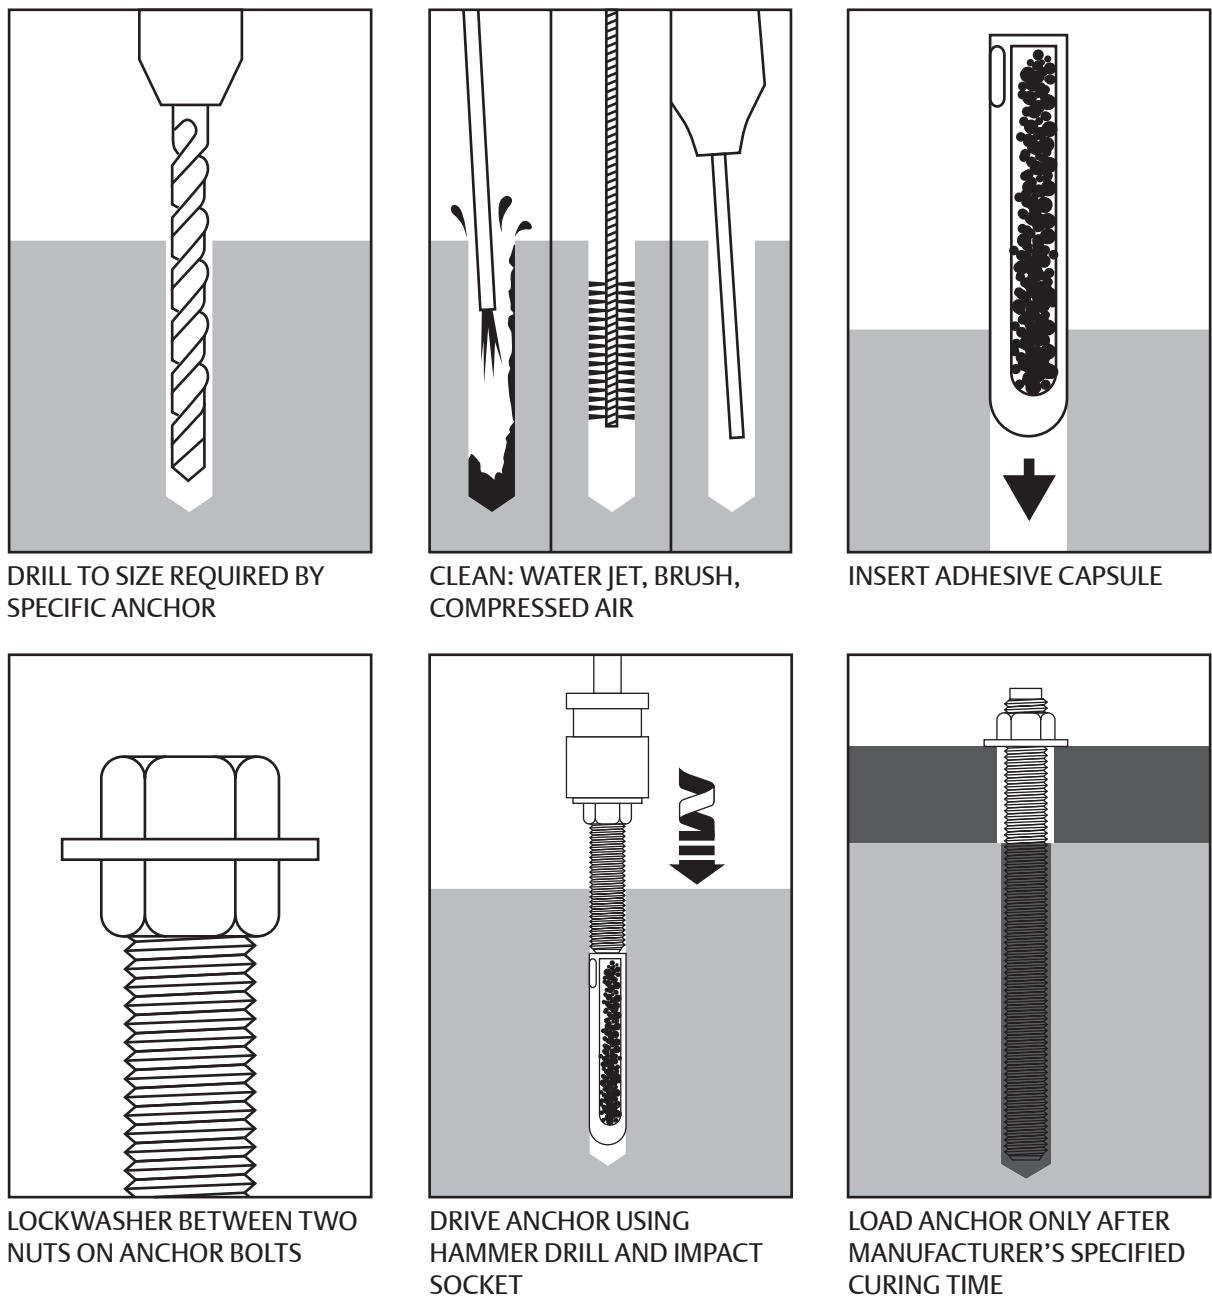

Figure 3-2. Adhesive Anchor Bolts
- Installation of the anchor bolts is shown in the literature accompanying the anchors. Although these instructions may vary slightly from one manufacturer to another, the basic steps as shown, are common to all, see Figure 3-2.